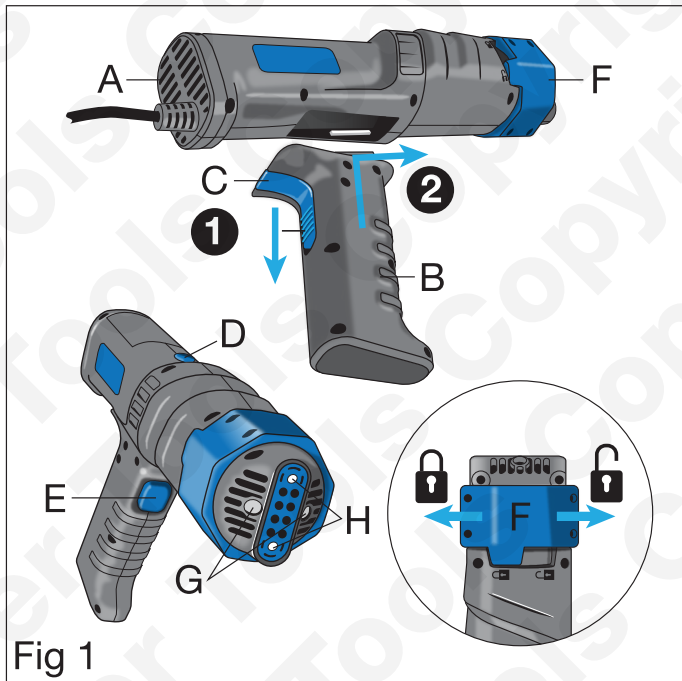

Fig 1
- Refer to Figure 1: Locate the legs of the chosen induction coil in the coil leg location sockets (G). Secure by turning the rotary coil lock (F) to the LOCK position (padlock symbol). Make sure the coil legs are secure and held tightly in the unit.